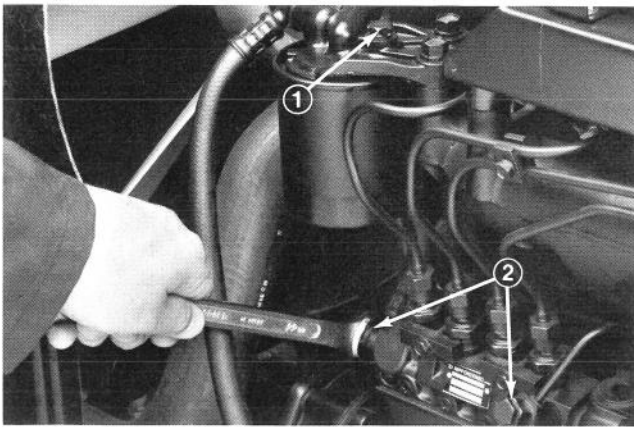
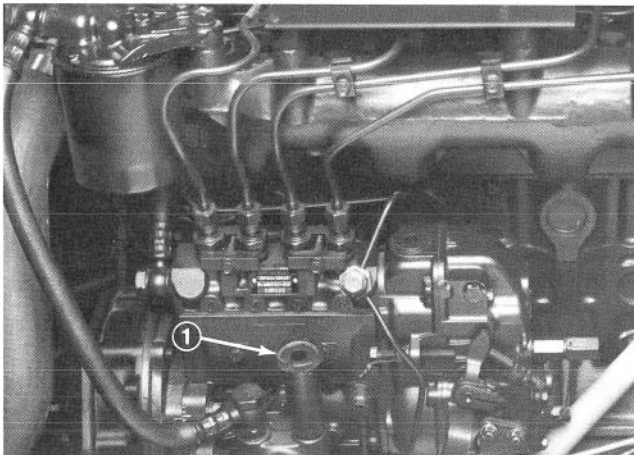

Figure 24
Figure 25
3. Loosen (3) air vent plugs on the engine fuel filter assembly about 1-1/2 turns (Fig. 24).
4. Rotate priming pump (Fig. 25) counter-clockwise until spring in pump assembly releases. Operate pump up and down until a solid stream of fuel flows out around filter plug and tighten plug.
5. Loosen air vent plug on injection pump about 1–1/2 turns (Fig. 24). Operate priming pump until solid stream of fuel flows from the vent hole (Fig. 25), then tighten air vent plug.